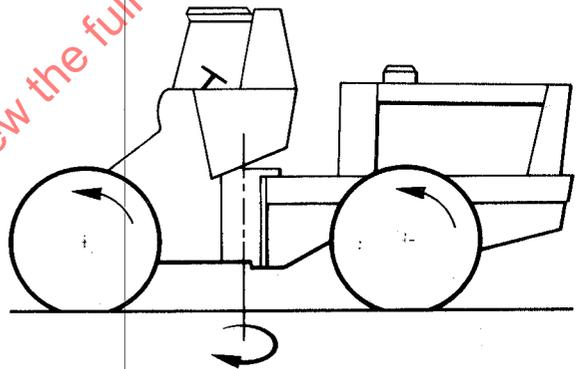

Figure 4 — Wheel tractor — Four wheel, articulated steer, four wheel drive, operator front
5.1.4.3 Articulated steering (see figures 4 and 5).
5.1.5.1 Operator front (see figure 4).